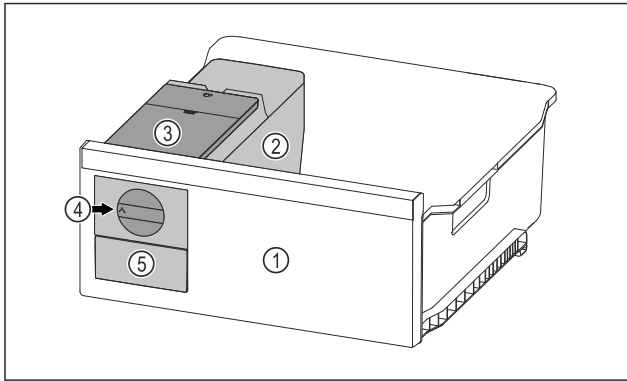

Fig. 127 Example illustration
- ▶ Turn the rotary knob Fig. 127 (4) clockwise as far as it will go.
- ▷ Ice cubes fall from the ice cube tray into the ice cube drawer Fig. 127 (5).